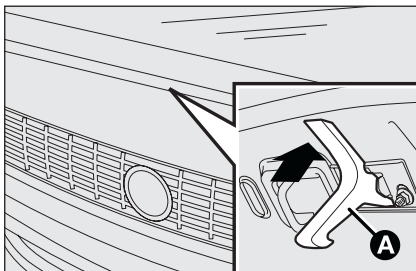

fig. 95
- operate lever **A-fig. 95** as shown in the figure;